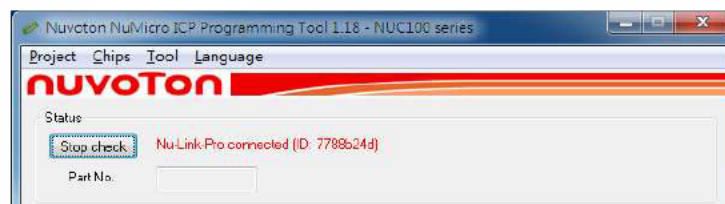

Figure 4-8 Nu-Link Adapter Connected with No Target Chip Detected
Step 8b: Figure 4-8 shows that the ICP Tool has been connected with the Nu-Link Adapter with no target chip detected. The ICP tool will continue detecting the target chip until the **Stop Check** button is clicked. At this time, the user cannot program any chip, but can use the offline programming to save the offline programming information in the Nu-Link Adapter.
Step 9: Click the **Disconnect** button if programming is not needed (as shown in Figure 4-7). Or click the **Stop Check** button to disconnect the ICP Tool with the Nu-Link Adapter and leave the Nu-Link Adapter unused (as shown in Figure 4-8). As such, the Nu-Link Adapter can be connected with another tool.